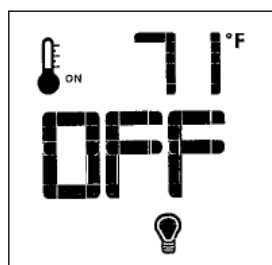

Fig. 15.17. Lamp Control.
- With the Remote ON, press the Mode Key to index to the Lamp icon. Figs. 15.17.